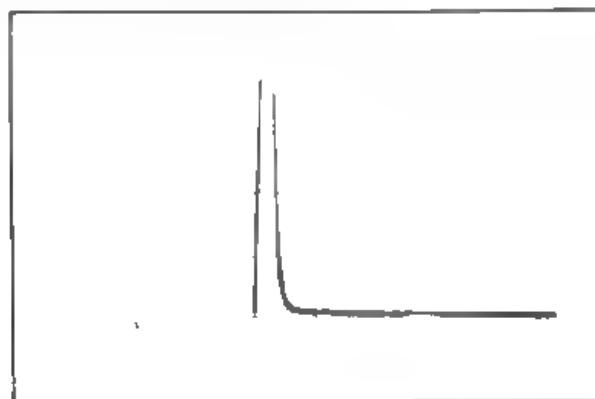

Figure 5.2 Pole Zero Adjustment, AMP OUTPUT ( 5V/div., 20 $\mu$ sec/div )
- b Observe the UNIPOLAR OUTPUT on the scope and adjust the P,Z control so that the tail of the Gaussian pulse returns to the baseline as fast as possible with NO under or overshoot as in Figure 5.2